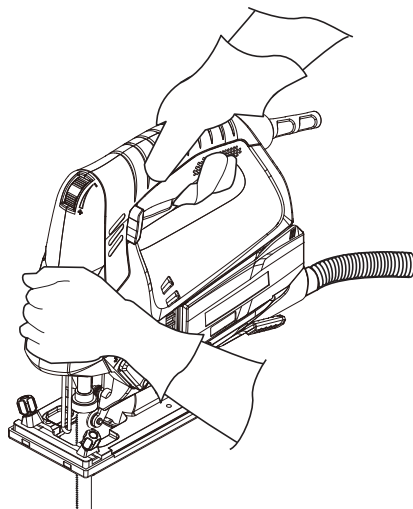

Fig. 9
2. Take the cutting edge into consideration when cutting along marked cutting lines. Do not cut directly on the line but next to it (Fig. 9).
6. Hold the product with one hand on the handle **(4)**, and with the other hand on the gripping surface **(22)**. Never try to operate the product with only one hand! Keep your hands away from under the workpiece (Fig. 9).